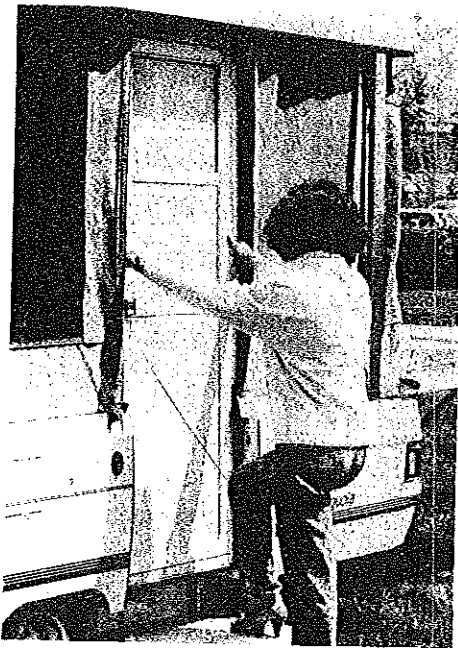

FIGURE 23
27. Step outside and grasp the door frame with both hands, one on either side, lower screen door into door threshold at base of doorway. See Figure 23. Unlock screen door latch and step inside.